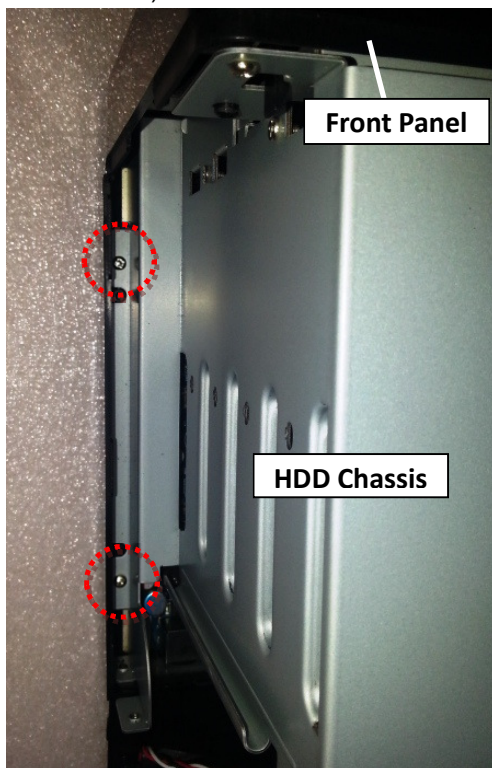
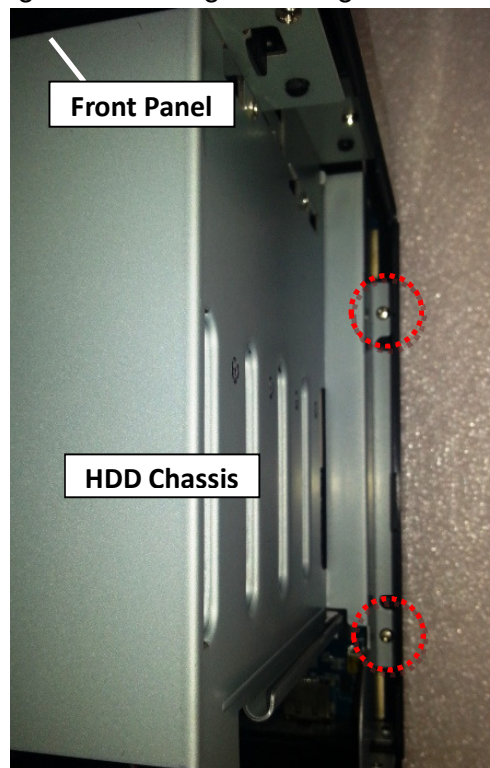

Fig. 50 – Top View, Right Side
Fig. 51 –Top View, Left Side
3.1.6 Release the two (2) screws on each side of the enclosure interior (Marked by the red circles) which fix the bottom cover. (Fig. 50 for the right and Fig. 51 the left side)